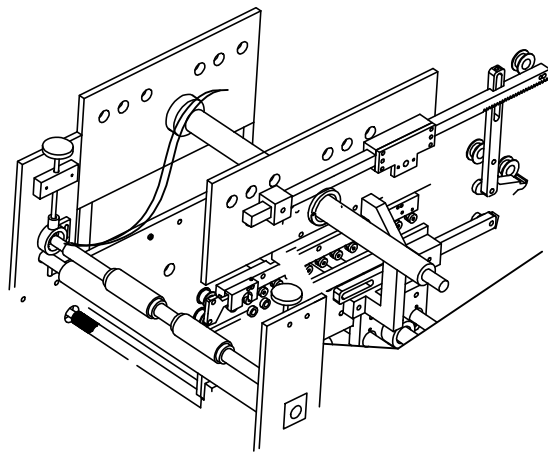

Fig 5-1
- ① Press down the jiggle bar (B) to raise subassemblies of folding unit, separate the folding base by jiggle bar b, see Fig.5-1.